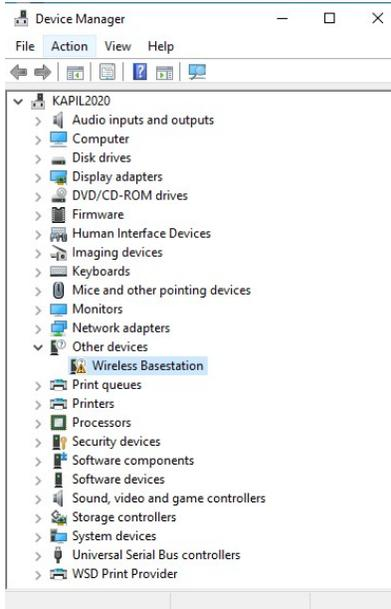

Figure 4.3: Missing USB driver for Wireless Base-station in Device Manager.
3. Check if *Wireless Base-station* appears under the *Other devices* tab with an exclamation mark (Figure 4.3).